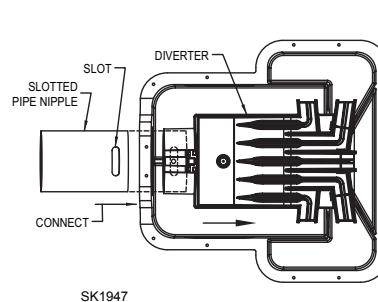

Figure 5.1
- 5.1) Set diverter into place and insert slotted pipe nipple into the diverter. See Figure 5.1.
- 5.3) Slide diverter and slotted pipe nipple as far forward as possible, see arrow in Figure 5.1.